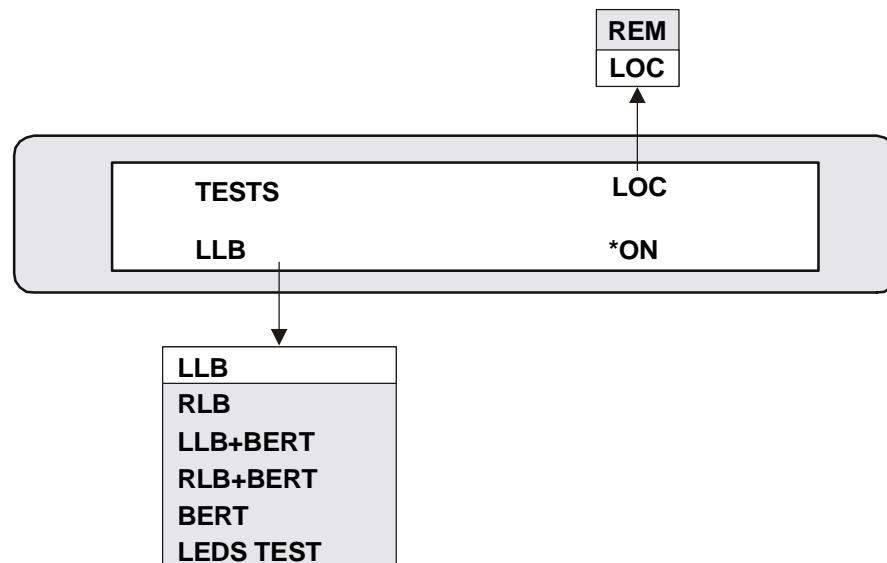

Figure 5-3. Initiating Local Loopback
1. Initiate local loopback via TESTS > LLB > ON (see Figure 5-3).